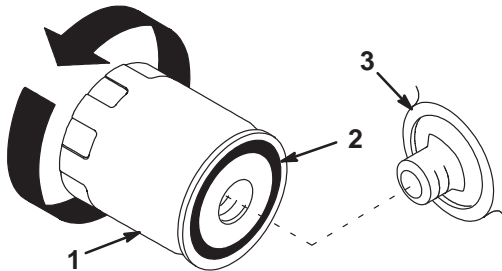

Figure 15
11. Change the oil filter, if necessary (Fig. 15).
2. Remove the old filter and wipe the filter adapter (Fig. 15) gasket surface.
3. Apply a thin coat of new oil to the rubber gasket on the replacement filter (Fig. 15).
4. Install the replacement oil filter to the filter adapter. Turn the oil filter clockwise until the rubber gasket contacts the filter adapter; then tighten the filter an additional 1/2 to 3/4 turn (Fig. 15).